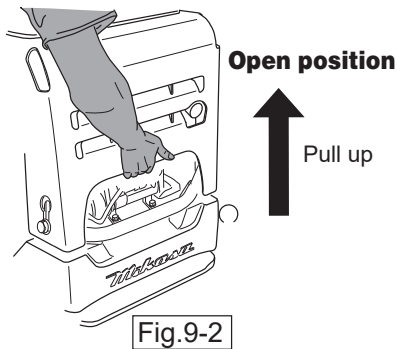

Fig.9-2
- 2 Hold the hook and the front side of front cover, and pull up to open position.(Fig.9-2)